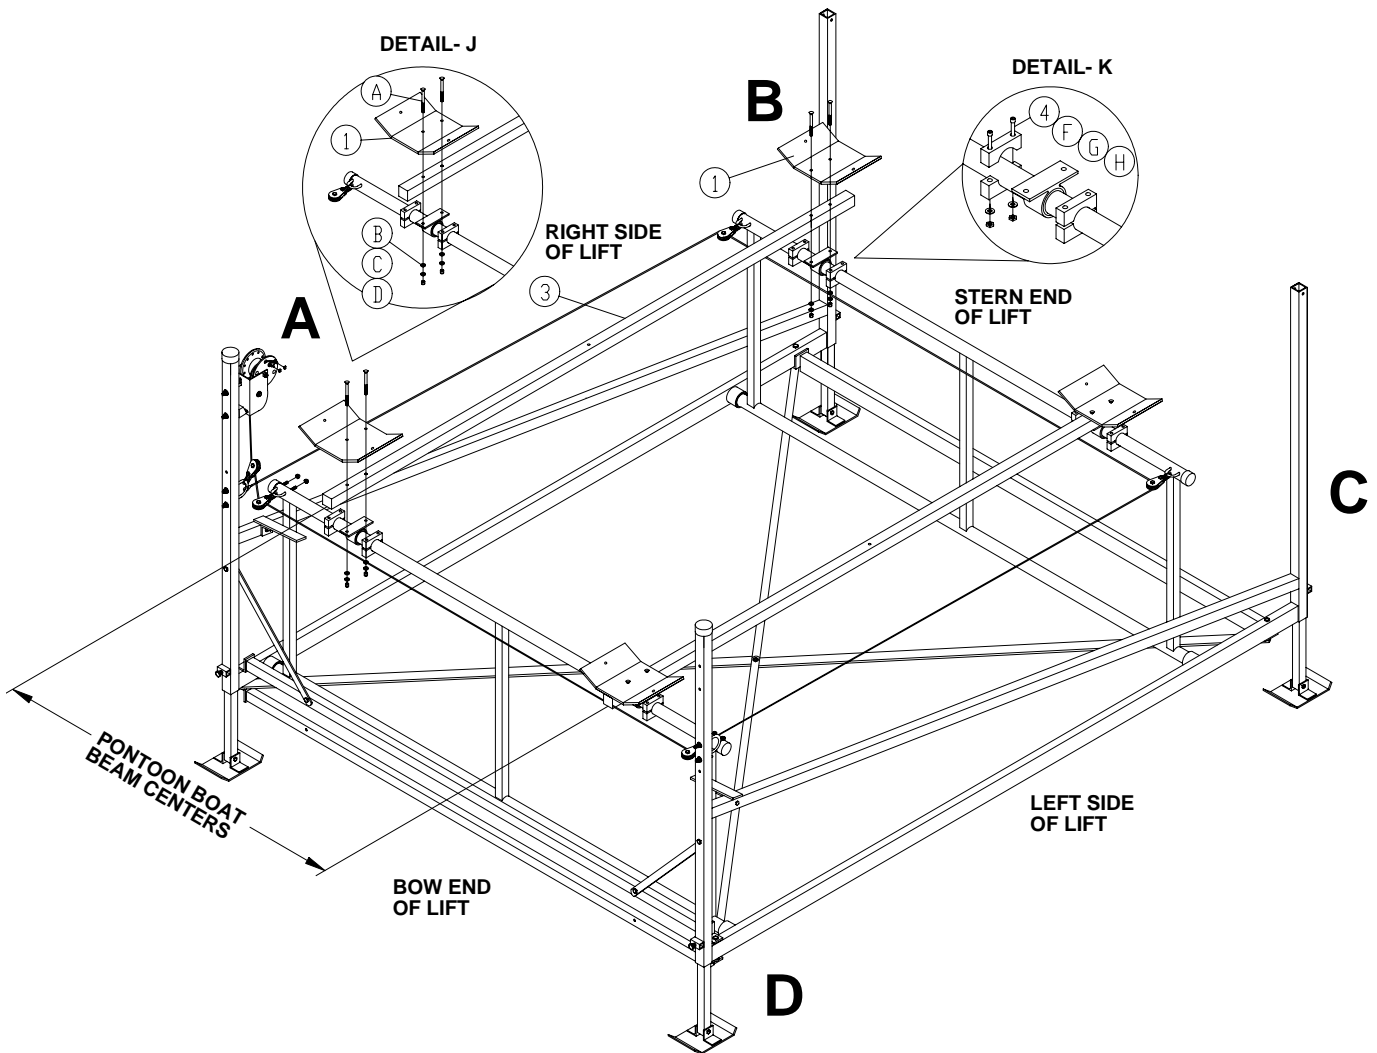

Figure 2-1.
2. **Refer to Figure 2-1.** Set distance of each lift arm bunk-mounting bracket a minimum of 10” from center of bow and stern lifting arm. Then mount a pair of half round clamps, approximately 2” away from each side of pivoting bunk-mounting bracket as shown in **Detail K**. When fastening the clamps together, use clamp with pressed in hex nuts as bottom clamp. Final adjustment of bunks to fit your boat is done after assembly is complete and lift is positioned in water.